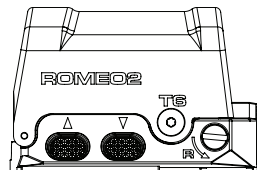

FIG. 5
C. **FULL SHROUD** with sealed rear polycarbonate window. This configuration adds drop and impact protection as well as a water-resistant seal, to prevent foreign materials and moisture from entering the LED emitter area, and is ideal for use in wet environments. (Fig. 5)